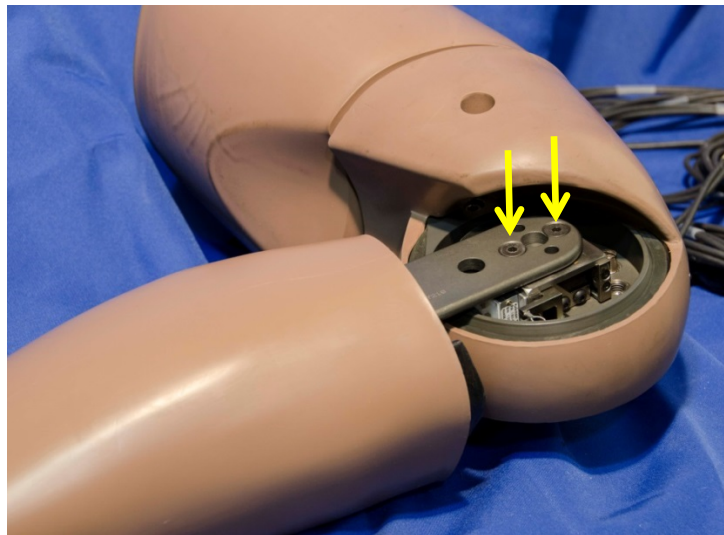

Figure 12-74. Secure clevis to knee
- 12.2.3.2 Secure the clevis to the knee using four M6 x 1.0 x 10 FHCS (two per side) (Figure 12-74).